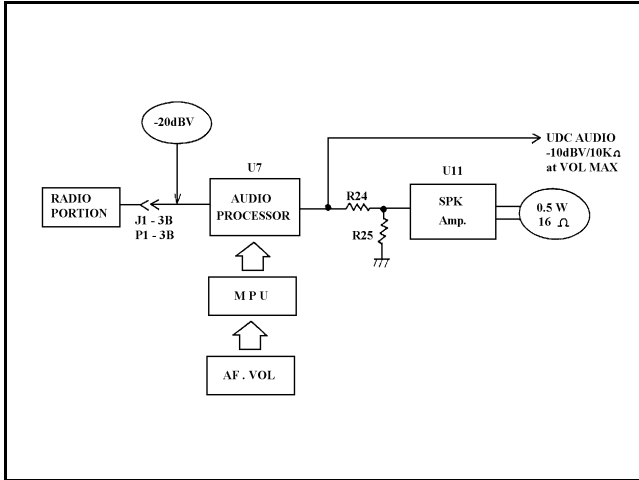

Figure 10 - Receive Audio Output
- b. Control Board : The receive RF signal comes into P1 , Pin 3B. The signal is then applied through a 14dB amplifier, 300-3000Hz BPF, Deemphasis and a 44 dB volume level control. The signal is then amplified by SPK amplifier U11 to drive the speaker. Typical levels needed to obtain a 1 kHz, 0.5 watt receive rated audio output are shown in Figure 10.